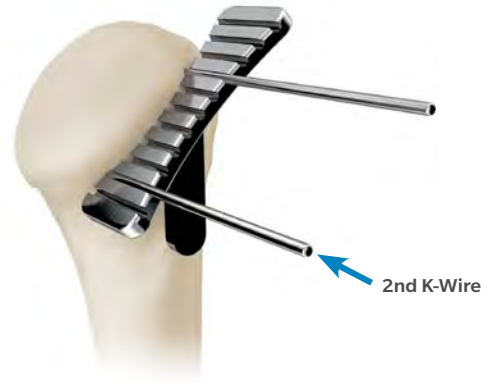

Figure 13
- Insert 2nd K-Wire to secure the Resection Guide at this angle (Figure 13).